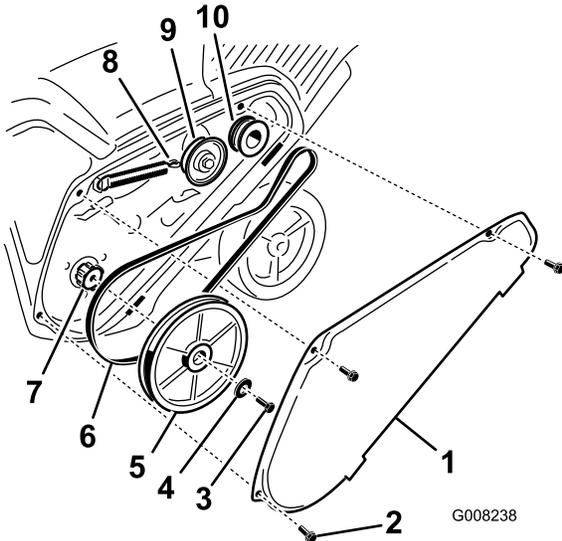

Figure 27
**Note:** Route the new drive belt first around the engine pulley, then the idler pulley, and finally around the loose rotor pulley positioned just above the rotor shaft (Figure 27).
6. Install the rotor pulley onto the rotor shaft (Figure 27).
7. Install the curved washer and the rotor pulley bolt and tighten them securely (Figure 27).
2. Unhook the brake spring from the idler arm to release the belt tension (Figure 27).
3. Remove the screw and curved washer that holds the rotor pulley (Figure 27).
4. Remove the rotor pulley and the drive belt (Figure 27).